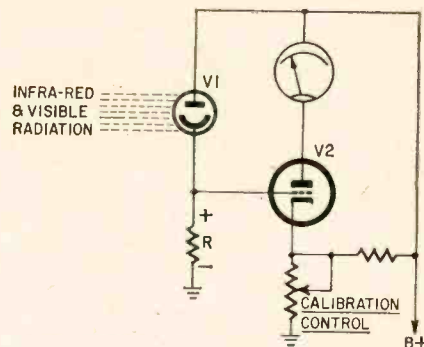

Fig. 21—Photoelectric pyrometer measures temperature of heated metal by monitoring infrared radiation.
The circuit diagram of a photoelectric pyrometer is shown in Fig. 21. The phototube is positioned outside an opening in the furnace so it is illuminated by the infrared (and visible) radiation
**Photo-relay circuit:** On-off type of control actuated by either an increase or a decrease of illumination. In the forward-acting photo-relay shown in Fig. 21, an increase of illumination causes the relay to energize. As illumination increases, the phototube draws